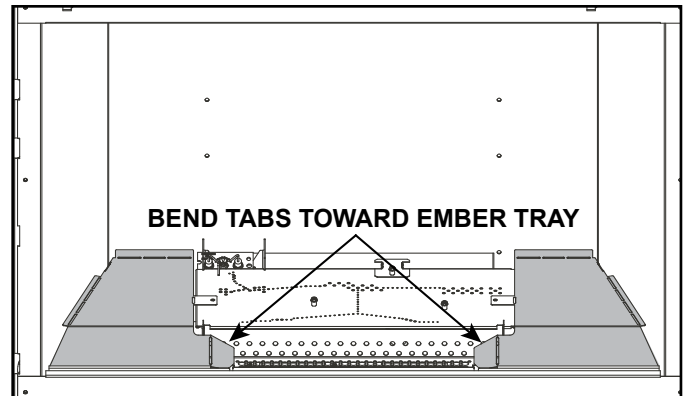

Figure 11.1 Bend Basepan Tabs
2. Bend the tabs on the left and right base pans slightly down toward the ember tray. See figure 11.1